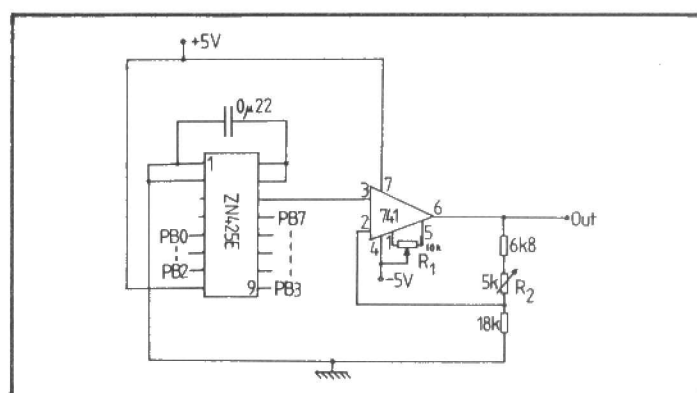

Figure 4
The user port (PB) is incremented with a suitable delay after each value, driving the chart recorder via a d-to-a converter. a standard converter is used in this design, see Figure 4. This gives an output voltage in the range 0 to +3.83 V using the internal voltage reference of the ZN425 and the op amp as shown.